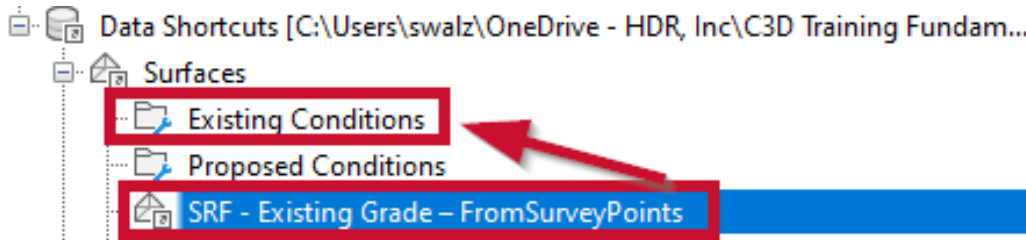

Figure 2.12 – Reorganizing items in the Surfaces folder in the Data Shortcuts project
2. After you create the folder and create the data reference again, you'll notice that any surfaces in the current drawing can be added but will be uncategorized. As shown in *Figure 2.12*, we'll then need to select **SRF - Existing Grade –FromSurveyPoints** in the **Data Shortcuts** project and drag and drop it into the **Existing** folder.